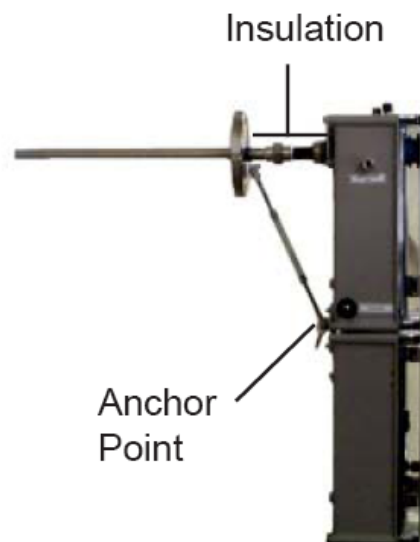

Figure 14
10. Connect free end of turnbuckle to anchor point at middle back of system (refer to Figure 14).